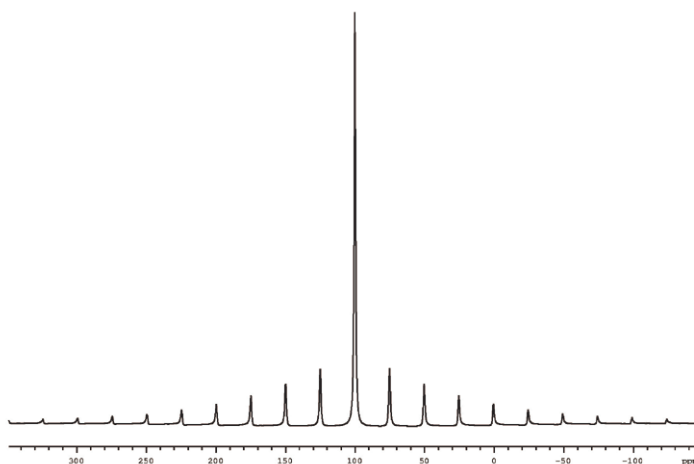

Figure 90. Spectrum of KBr to Optimize the Magic Angle
- The result is similar to Figure 90.